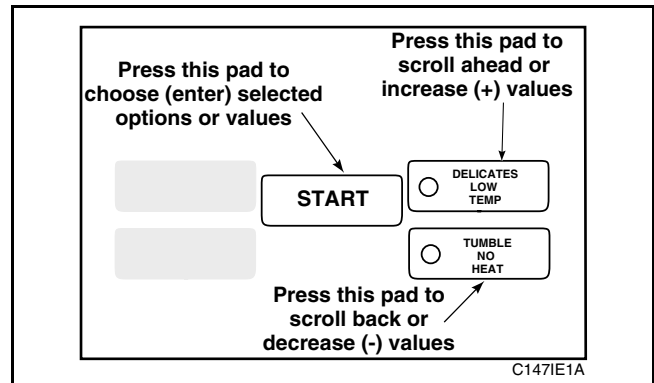

Figure 42
- Press the LOW TEMP (+) pad or the NO HEAT (-) pad to increase or decrease the current number of minutes allowed in Cool Down, *Figure 42*.